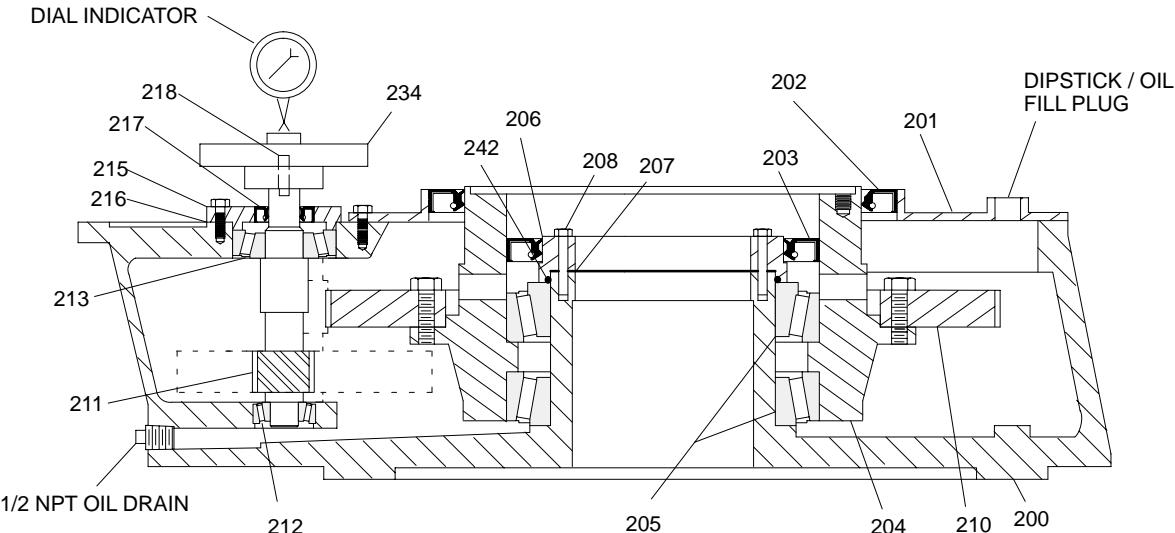

Figure 8
- a . To seat the bearings, install the high speed bearing retainer (215) without the shim set (216), and tighten the hardware. Remove the bearing retainer and hardware.
- b . Install the high speed bearing retainer with a full new shim set (216) and tighten the hardware. Rotate the pinion shaft (211) to align the bearing rollers.
- c . Measure the axial float per the following procedure (refer to Figure 8):
- 1 . Install the coupling hub (234) on the pinion shaft (211) and tighten set screw.
- 3 . Grasp the coupling hub (234) and move the pinion shaft up and down while measuring the axial float with the dial indicator.
- f . Loosen the set screw on the coupling hub (234) and move the hub down the shaft as far as possible for easy installation of motor and flexible coupling element.